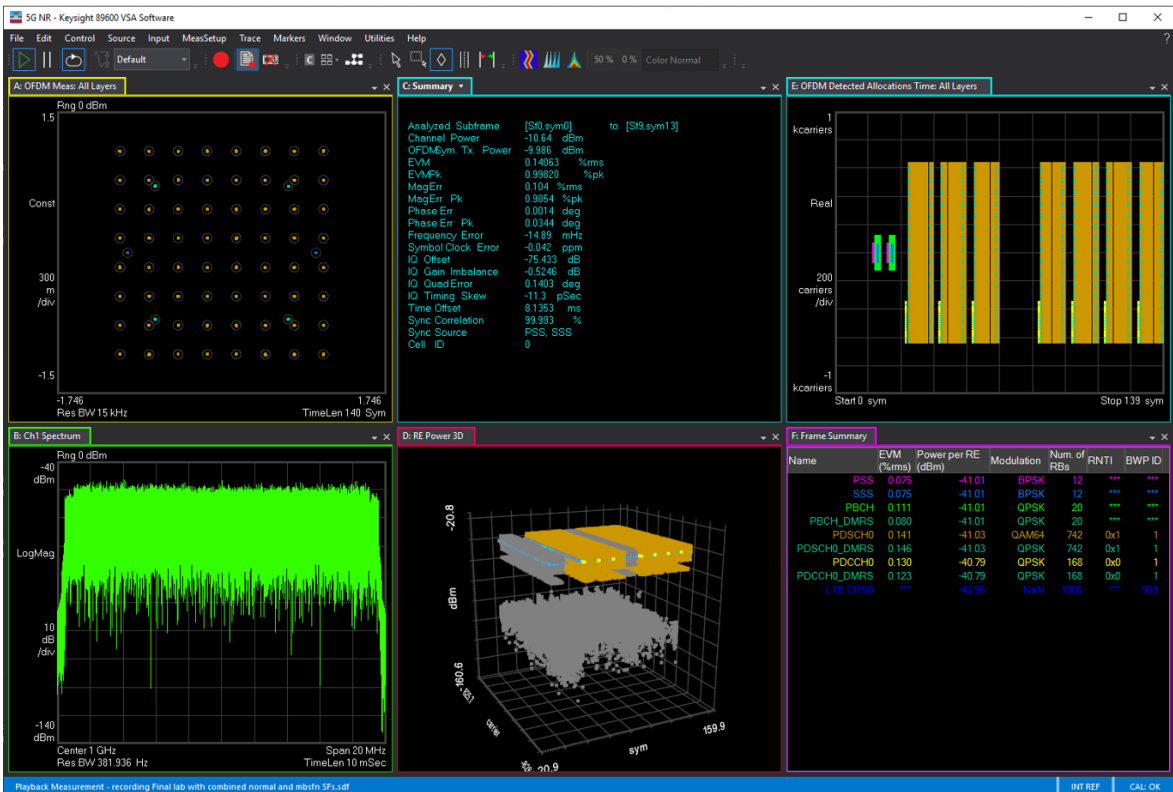

Figure 208 Viewing 3D plot for successful 5G NR demodulation
- 11 At this stage, if you run the measurement, you should see a successful demodulation, as shown in Figure 208.
- 12 Remove the inactive Channel from the 3D plot shown in Figure 208.